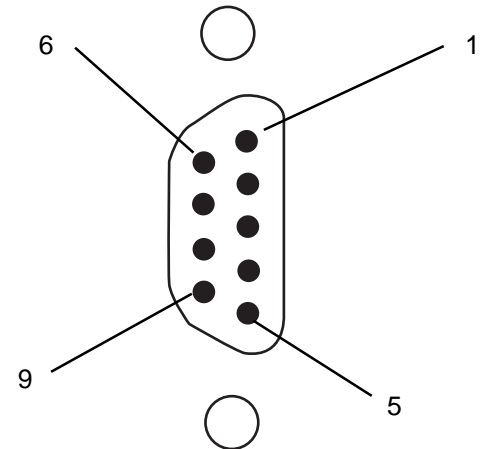
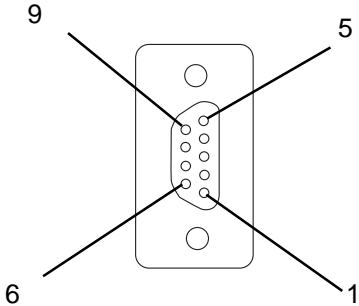
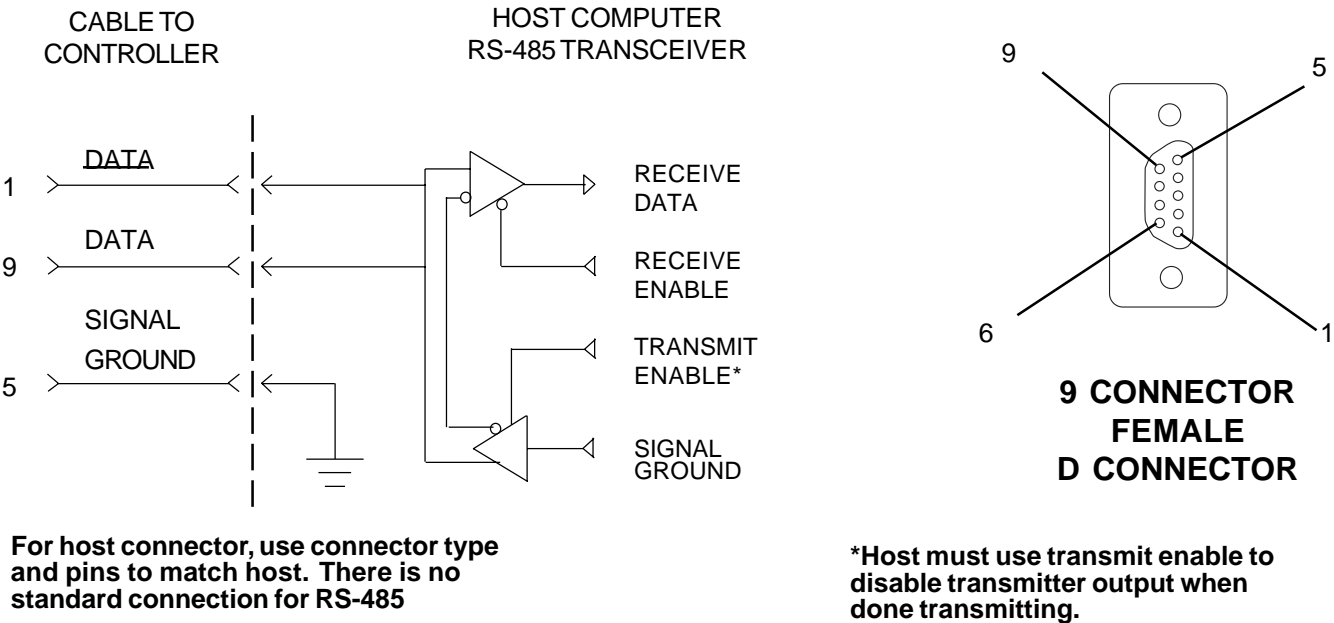

Figure 1:
Figure 3: RS-485 pass-through rear panel connector (female)
Figure 4: RS-485 cable to host computer
The RS-232 electrical interface is implemented using three wires, transmitted data (TxD), received data (RxD), and signal ground (SG). RS-232 is not formally specified for distances greater than 50 feet (15 meters), although it may work. These connections on the 9-pin D connector are the same as the standard PC-AT connections for a DTE (data terminal equipment) device. These connections are given in Figure 1. Figure 2 shows a cable for connecting to other DTE devices using either the standard 25-pin D connectors or the PC-AT's 9-pin D connector.
RS-485 is a differential interface, implemented with two signal wires and a ground wire. This connection allows multiple devices to communicate on the same wires. This multidrop cabling method requires a unique address for each device on the bus. Figure 1 shows the connections on the main RS-232/RS-485 connector on the Communications Module. Figure 4 shows a cable for connecting to a host computer RS-485 port. Note that there is no standard for RS-485 connectors and the cable must be made for the specific device to be used on the other end. In order to maintain compliance with the CE Declaration of Conformity of the Controller, cables with a full braided shield, properly grounded at each end, must be used.
There is an additional RS-485 pass-through connector on the rear panel of the module, to allow the cable to continue on to other devices. Its pin connections are shown in Figure 3. Since the primary connector is male, the pass-through connector is female, and the pins used for the RS-485 signals are the same on both. This allows the Controller to be removed and bypassed by connecting the two cables together, leaving all other devices connected. The continuation cable will be similar to that shown in Figure 4 but with a male D connector (which has pin 1 on the opposite end so that it connects with pin 1 of the female connector).